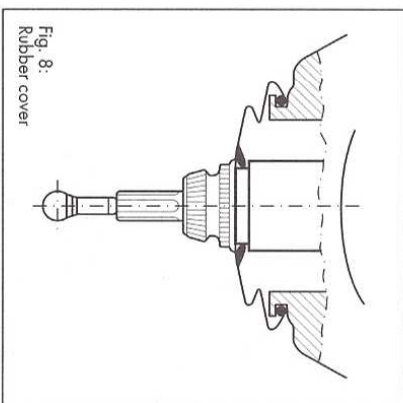

Fig. 8: Rubber cover
The values given for the measuring exactness are only valid when using original probe tips (can be recognized by grooves on ceramic part, see fig. 8)
- Check rubber cover: The rubber cover protects the sensing mechanics against dirt. Please check that it sits properly (fig. 8).